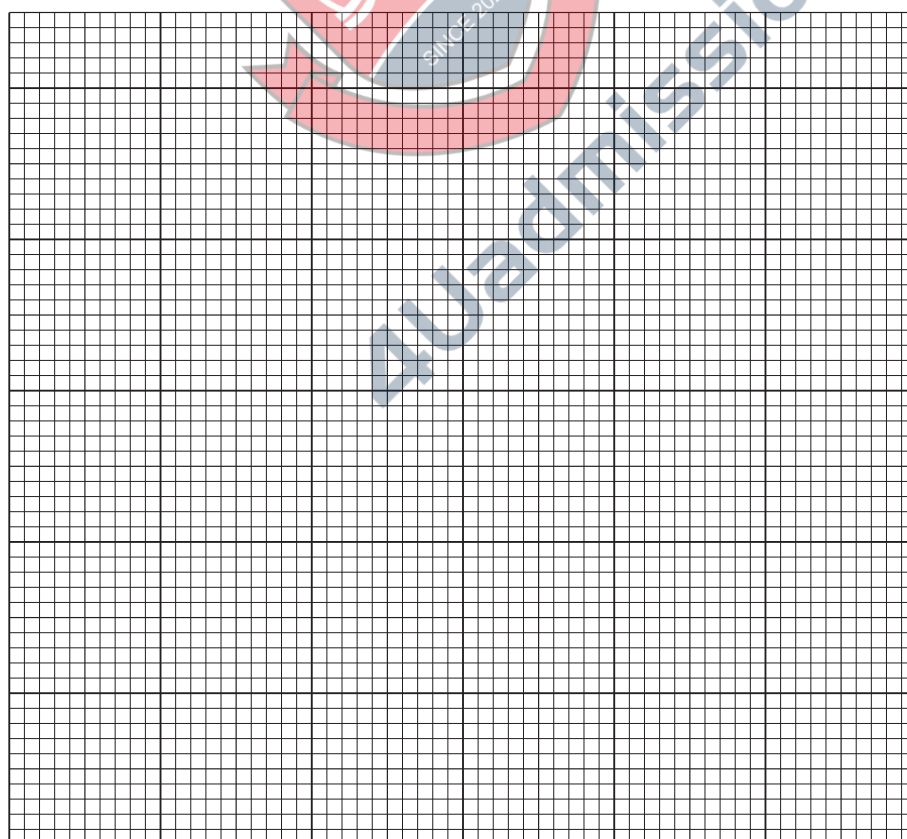

Fig. 1.3
- (i) Plot a graph of the data in Table 1.2 on the grid in Fig. 1.3.
- (ii) Describe **and** explain the shape of the graph in Fig. 1.3.